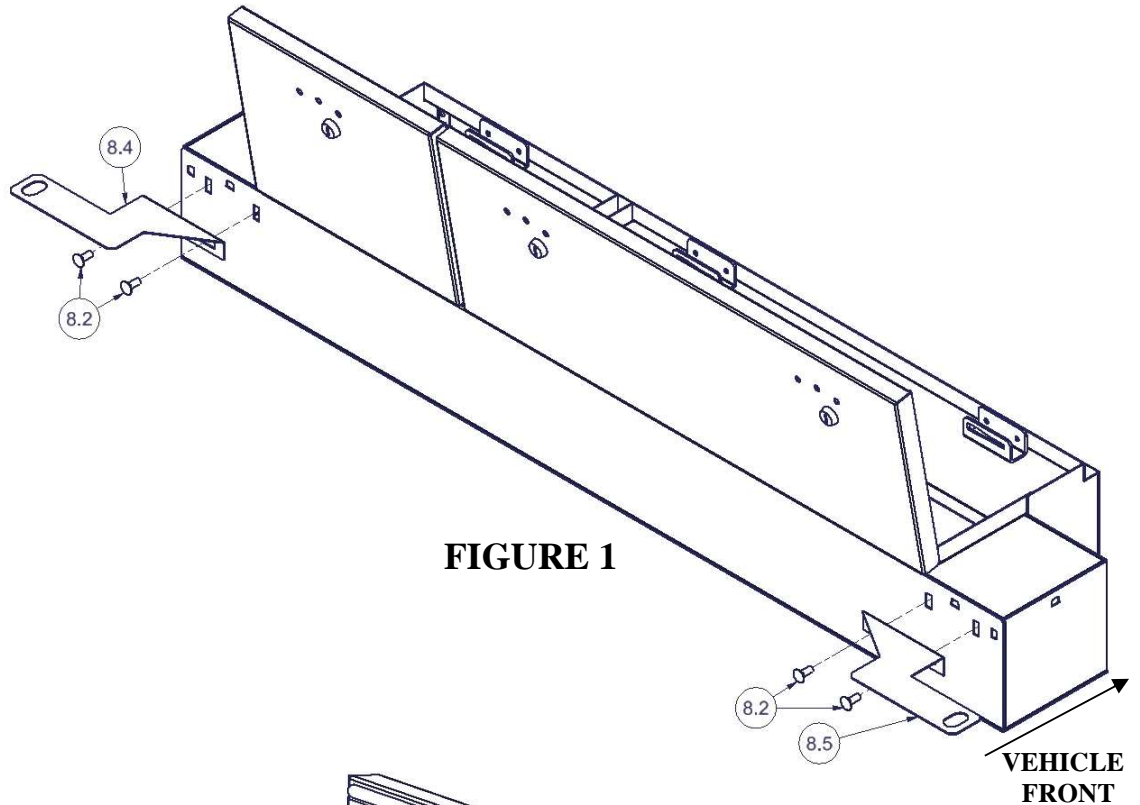

FIGURE 1
9. Alternately slip the #8.4 and #8.5 Mounting Brackets between the seat mount brackets and the seat mount pedestals of the vehicle so that the mounting holes may be clearly seen through the obround holes in the Mounting Brackets. The Mounting Brackets should extend toward the middle of the vehicle. **See Figure 1 (Reverse Side).**
12. Insert the #8.2 Carriage bolts through the #8.4 and #8.5 Mounting Brackets so they protrude to the inside of the box. The Carriage bolts may need to be moved in the horizontal slots of the #8.4 and 8.5 Brackets to line up properly with the vertical slots in the rear of the Lockbox. See **Figure 1**